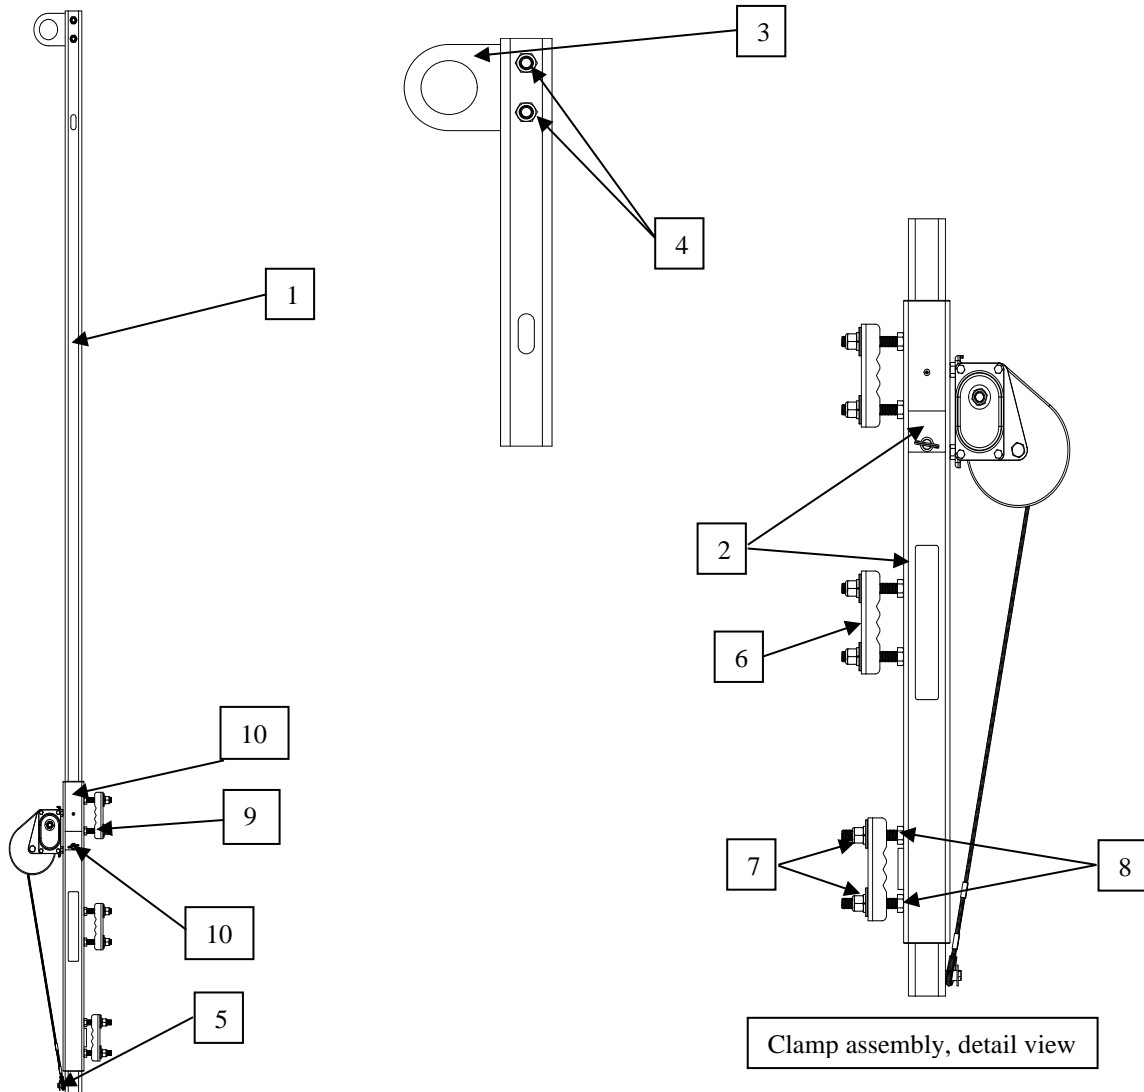

Fig. 1 Components of the Vertical Extendable Ladder Davit
1. Remove the 3 ea. rung clamps from the Stanchion Receptacle by removing the 6 sets of nuts and washers, and the 3 rung clamps from the 6 mounting bolts fastened to the Davit tube. (See Fig. 1 for parts identification).